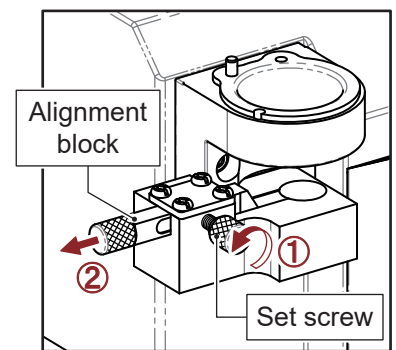
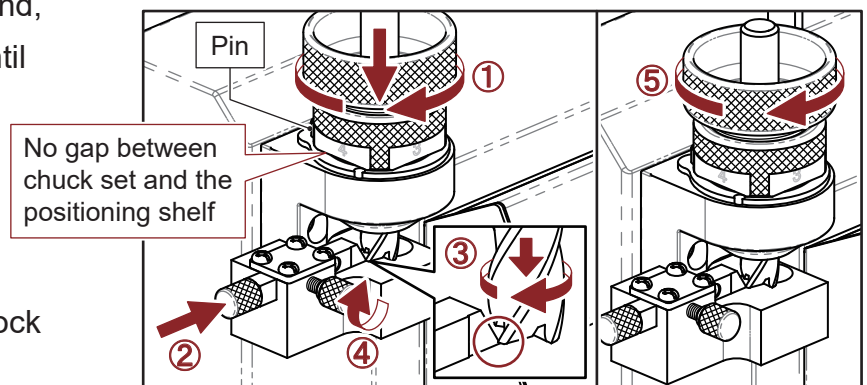

Fig. 8-1
Fig. 8-2
1. Preset the position of the alignment block. (Fig. 8-1)
- ① Loosen the set screw.
- ② Pull out the alignment block to the end.
2. End mill positioning (Fig. 8-2) :
- ① Align the slot of the clamping nut to the pin on the positioning shelf, insert the chuck set into the positioning shelf and fit them with no gaps, then turn the chuck set clockwise until it stops by the pin.